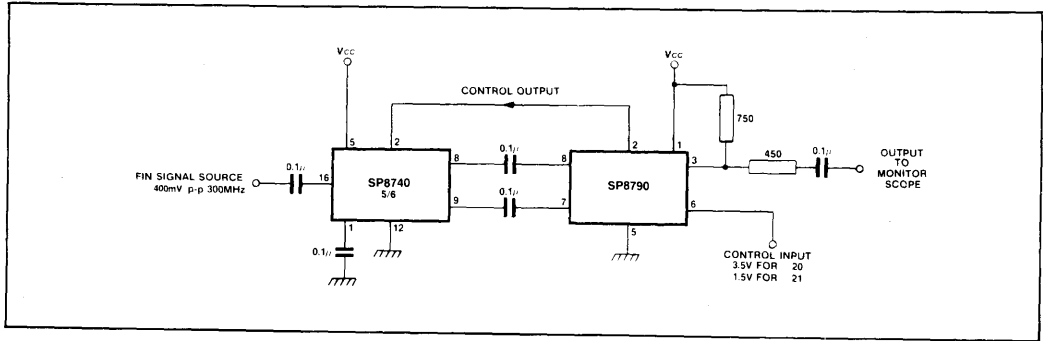

Fig.4 Test circuit
2. The test configuration for dynamic testing is shown in Fig.4.
1. The device will normally be driven by capacitively coupling the inputs to outputs of a 2-modulus divider. See Figs. 4 and 5. The maximum frequency of the device when used as a controller is limited by the internal delays and will not operate above 60MHz. When used as a prescaler the device will operate in excess of 80MHz, the maximum frequency being limited by saturation of the counter output stage.